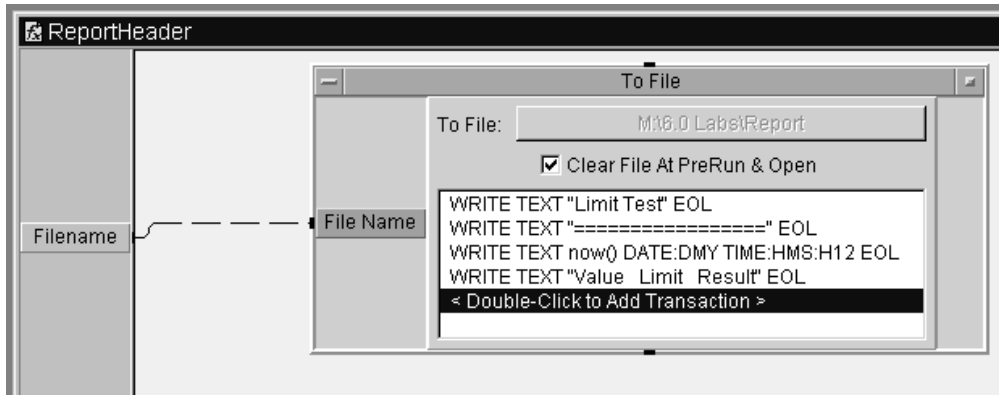

Figure 14.11. ReportHeader revisions
24. Modify your ReportHeader Function as shown in Figure 14.11 – both the instructions in ToFile and the additional terminal (FileName) and its connection.